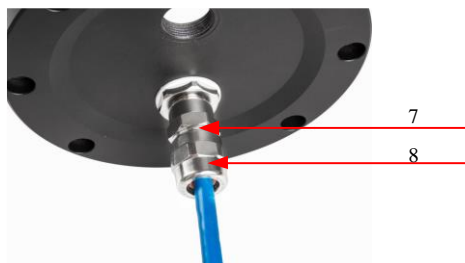

Figure 13
- (6) Tighten part 8 onto part 7 so that the sealing ring in part 8 fits tightly onto the outer sheath of the cable. As shown in the following Figure 13.